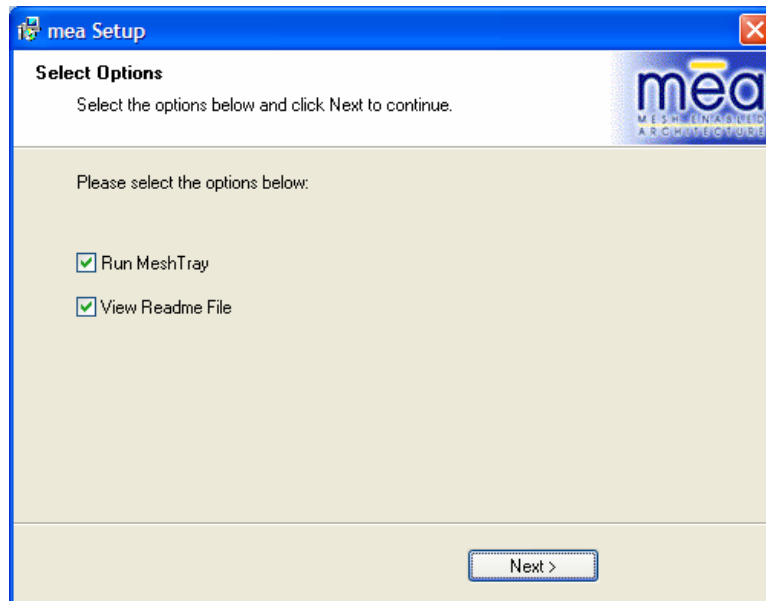

Figure 13. Software Installation Dialog Box
18. The *Select Options* dialog box will be displayed as shown in Figure 13. This dialog box allows the user to view the *ReadMe* file for the most current release information. It also allows the user to immediately run MeshTray. Click on the **Next** button to proceed with the installation process.